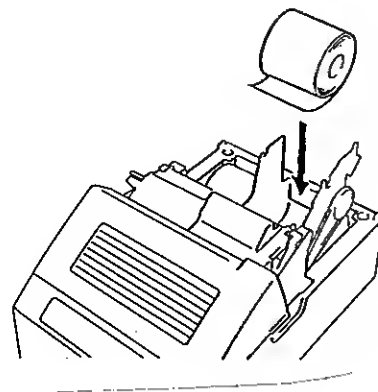

Fig. 1
- 2) Place the paper end on the right holder so that paper will be fed from the bottom of the paper roll. (Fig. 1)